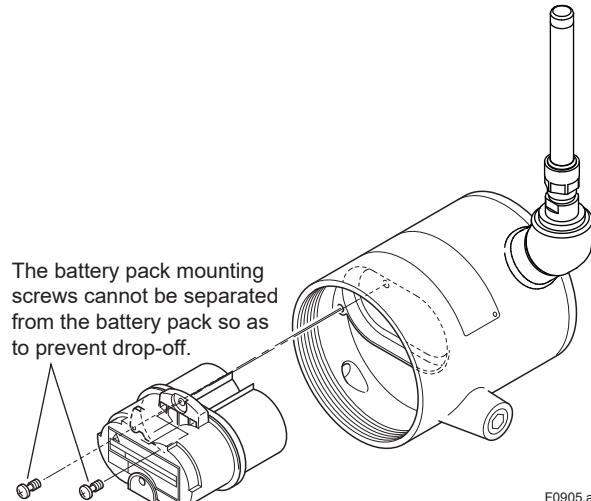

Figure 9.5 Removing the Battery Pack
- 2) Loosen the two battery pack mounting screws (see Figure 9.5).
- 3) Loosen the two power supply module mounting screws (see Figure 9.5).